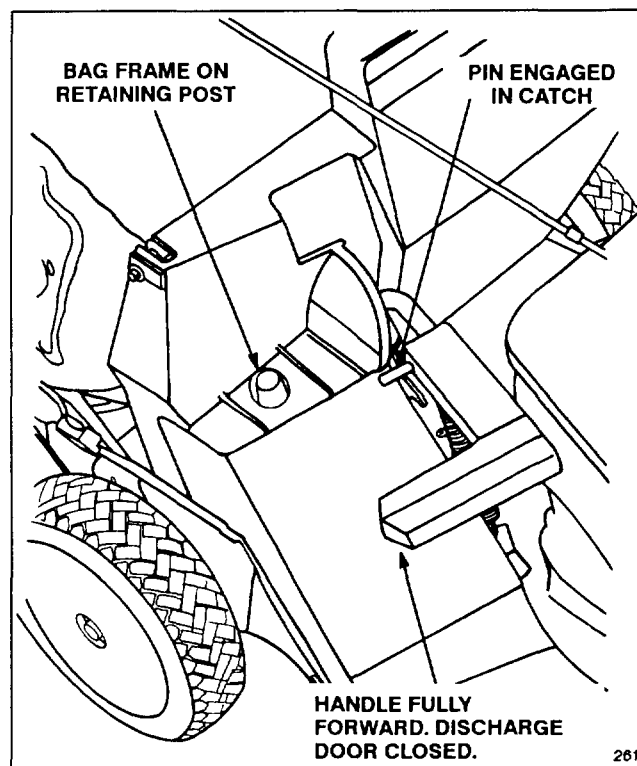

Figure 15
2. Ensure discharge door handle is fully forward and pin is engaged in catch (Fig. 15).
3. **INSTALLING BAG**—Slide hole in bag frame onto retaining post on discharge tunnel (Fig. 15). Set rear of bag frame onto support rod.
5. **EMPTYING BAG**—Stop engine and wait for all moving parts to stop. Raise discharge door handle and move it forward to engage the locking pin with catch (Fig. 15). Grasp handles at front and rear of bag and lift bag off mower. Gradually tip bag forward to empty clippings.